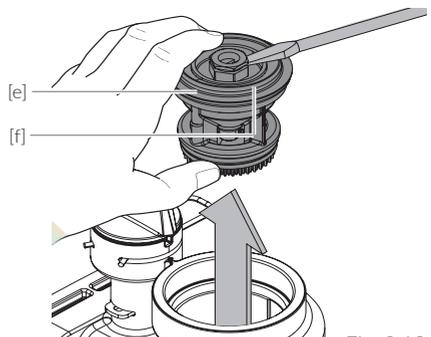

Fig. 9.12
- / Fig. 9.12: Remove cartridge [e] with the slide ring [f]